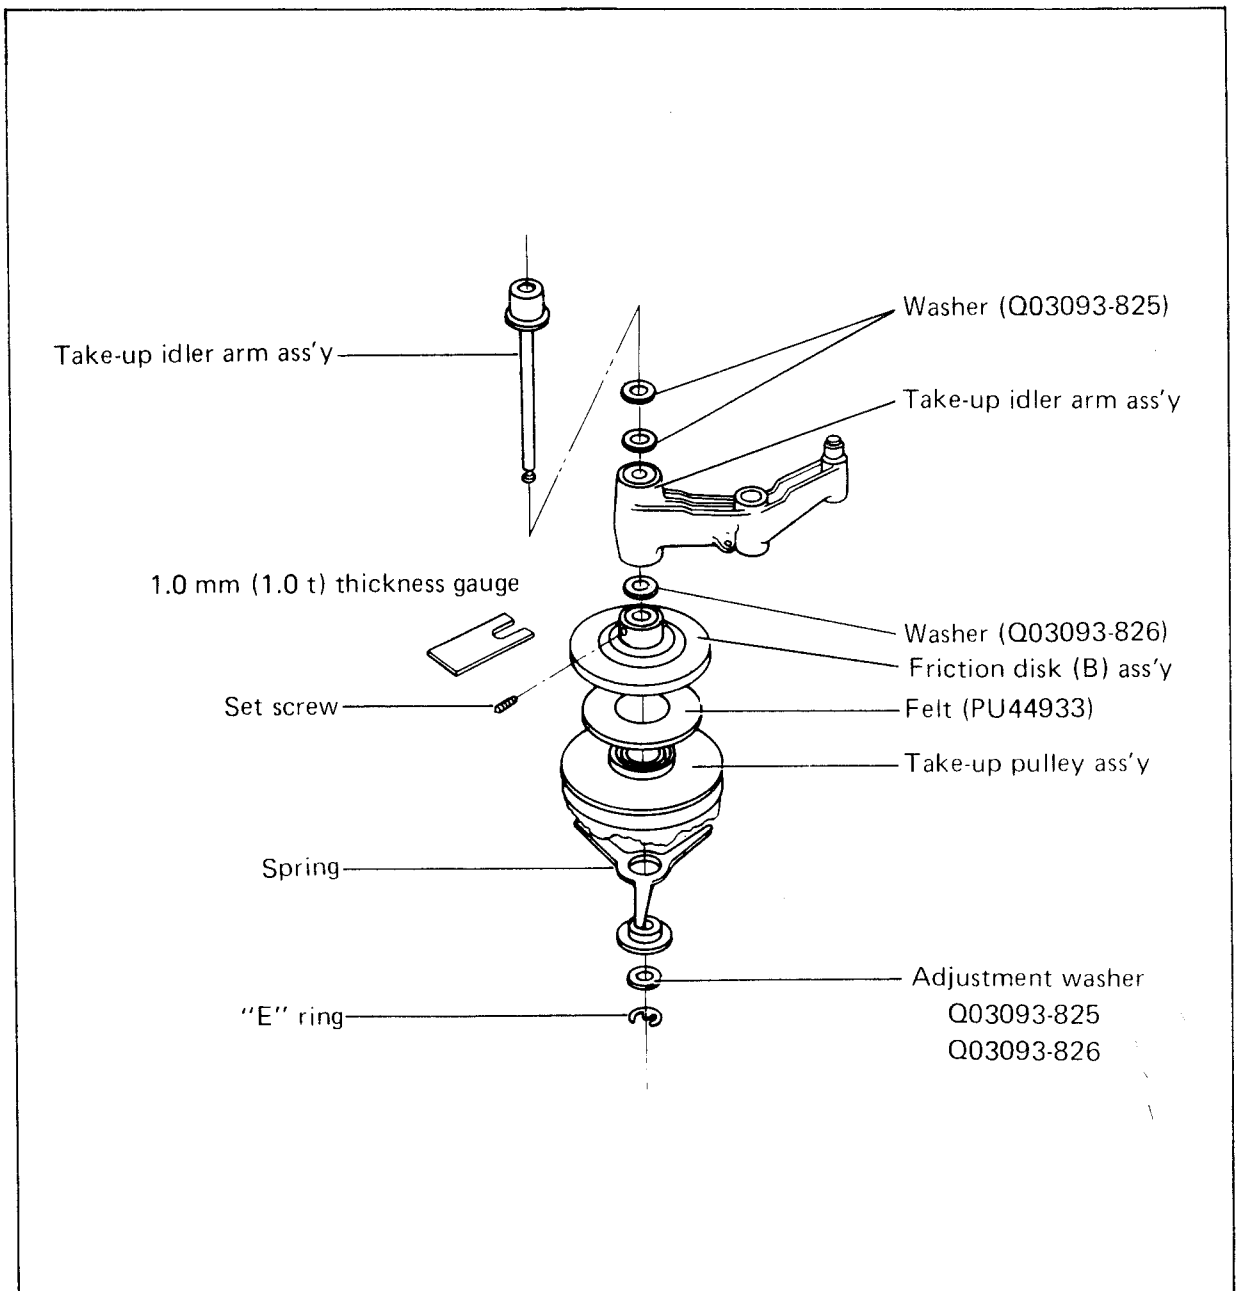

Fig. 5-12 Adjustment of take-up torque
2. If the take-up torque is excessive less than proper torque, add the adjustment washer as shown in Fig. 5-12, then measure the take-up torque again.
NOTE: When assemble the friction disk assembly to shaft of the take-up idler, set 1.0 t thickness gauge between the take-up idler assembly and washer, then fasten the set-screw as shown in Fig. 5-12.